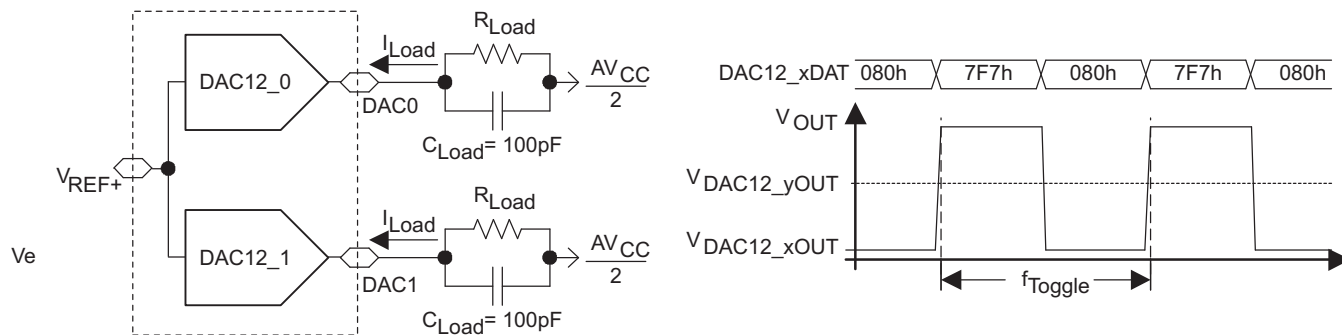

Figure 48. Crosstalk Test Conditions
| Channel-to-channel crosstalk (1) (see Figure 48)                                         | DAC12_0DAT = 800h, No load, DAC12_1DAT = 80h $\leftrightarrow$ F7Fh, $R_{Load} = 3$ k $\Omega$ , $f_{DAC12\_1OUT} = 10$ kHz, Duty cycle = 50% | 2.2 V, 3 V |     | -80  |      | dB         |